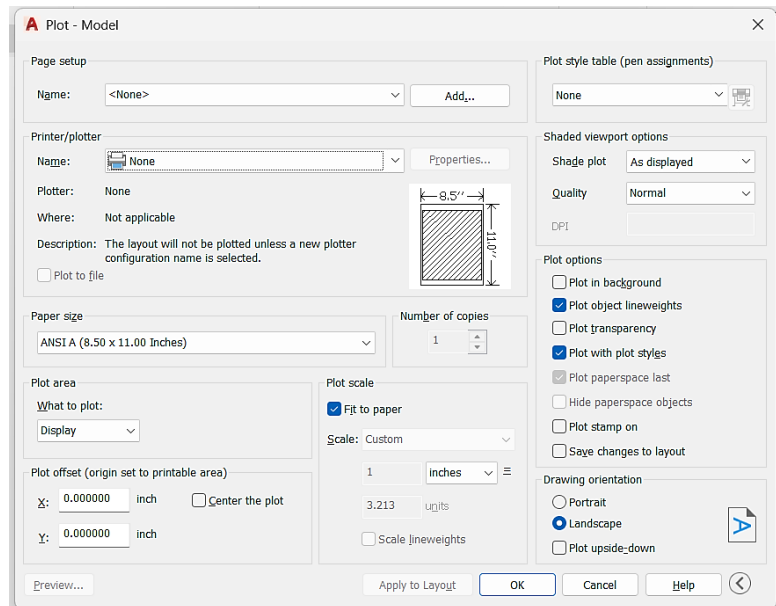

Fig. 5.13
- In the Plot dialog box as shown in Fig. 5.13, set the following options: